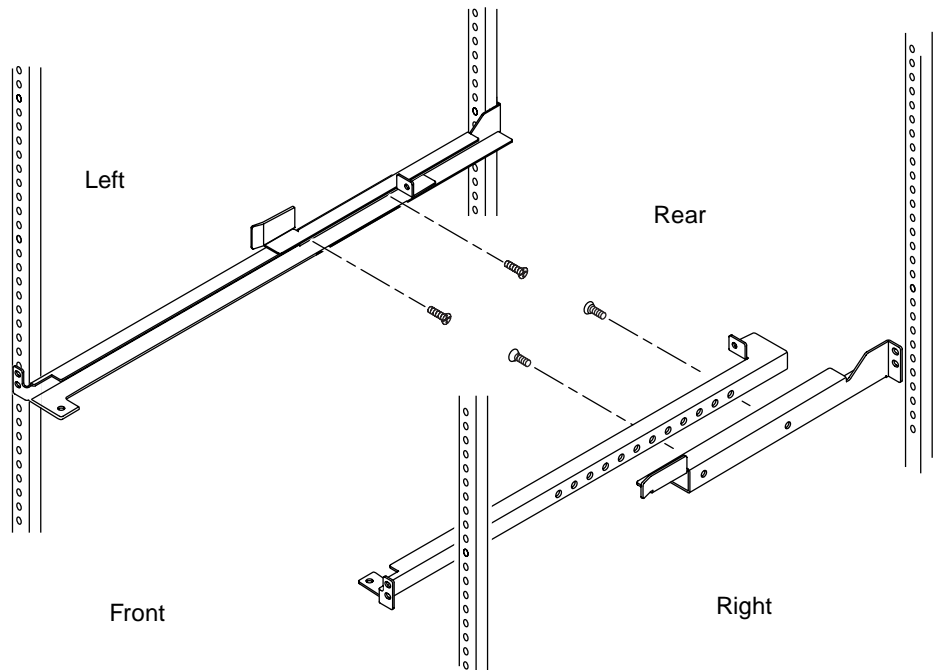

FIGURE 4 Assembling the Mounting Rails
1. Assemble the mounting rails (FIGURE 4).